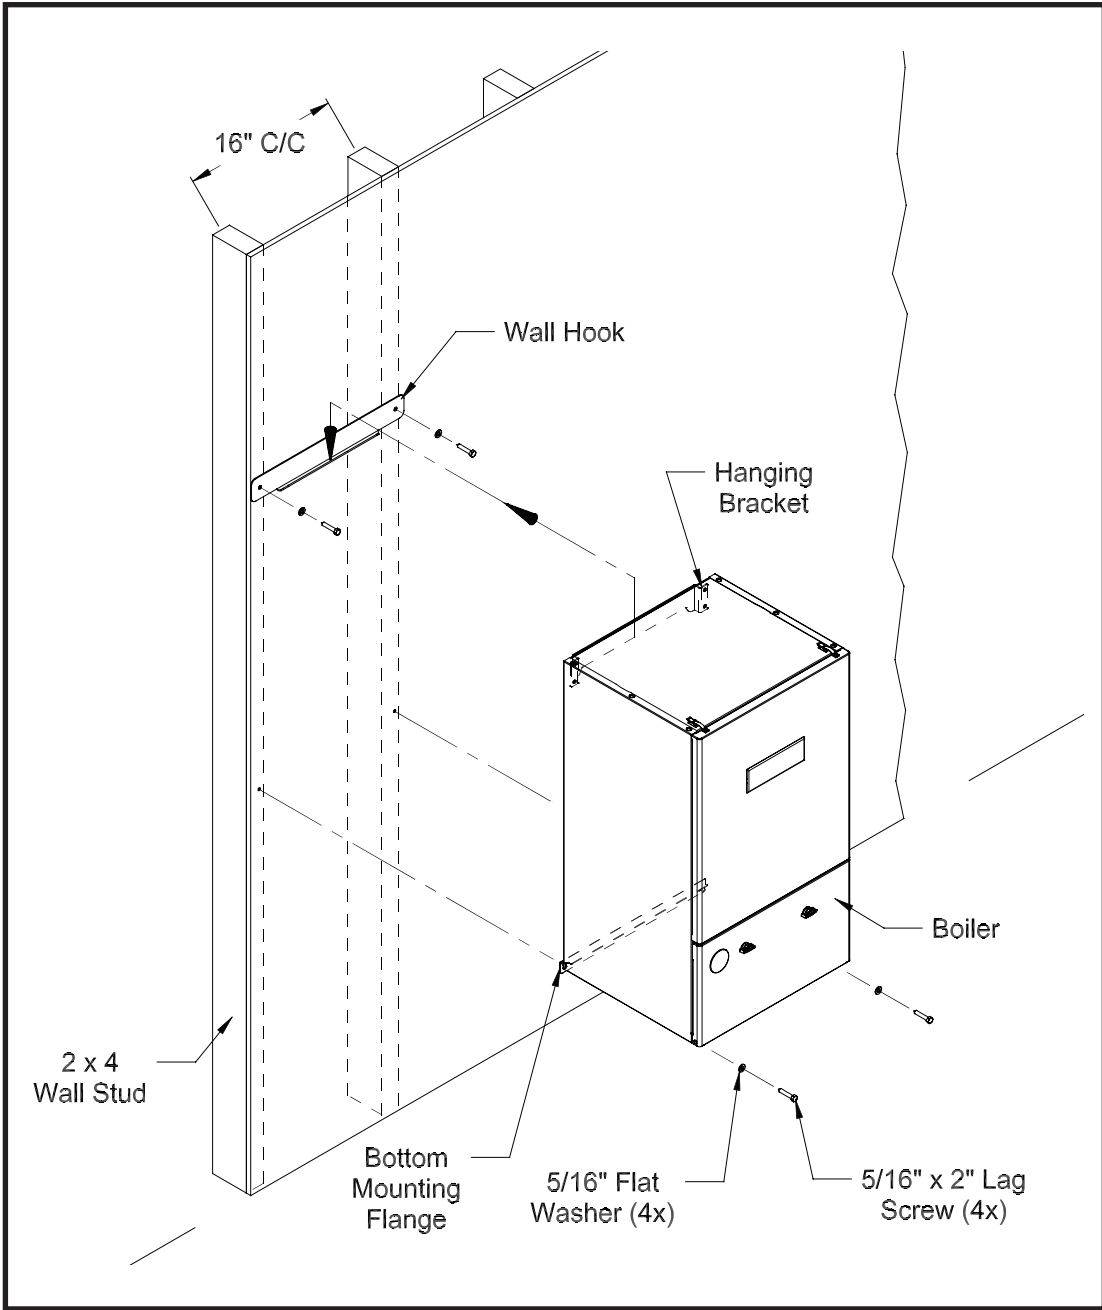

Figure 5.2 Boiler Mounting/Hardware
- 7) Attach the wall hanging hook using the  $\frac{5}{16}$ " x 2" lag screws and washers, or other suitable anchors as appropriate (Figure 5.2). Make sure the hook is level.
- 8) Hang the boiler on the wall hook as shown in figure 5.2.
- 9) If not already done in Step (4) locate and drill holes "C" and "D" using the obround slots in the bottom mounting flange. Secure the bottom flange to the wall using the  $\frac{5}{16}$ " x 2" lag screws, or other fasteners as appropriate (figure 5.2).